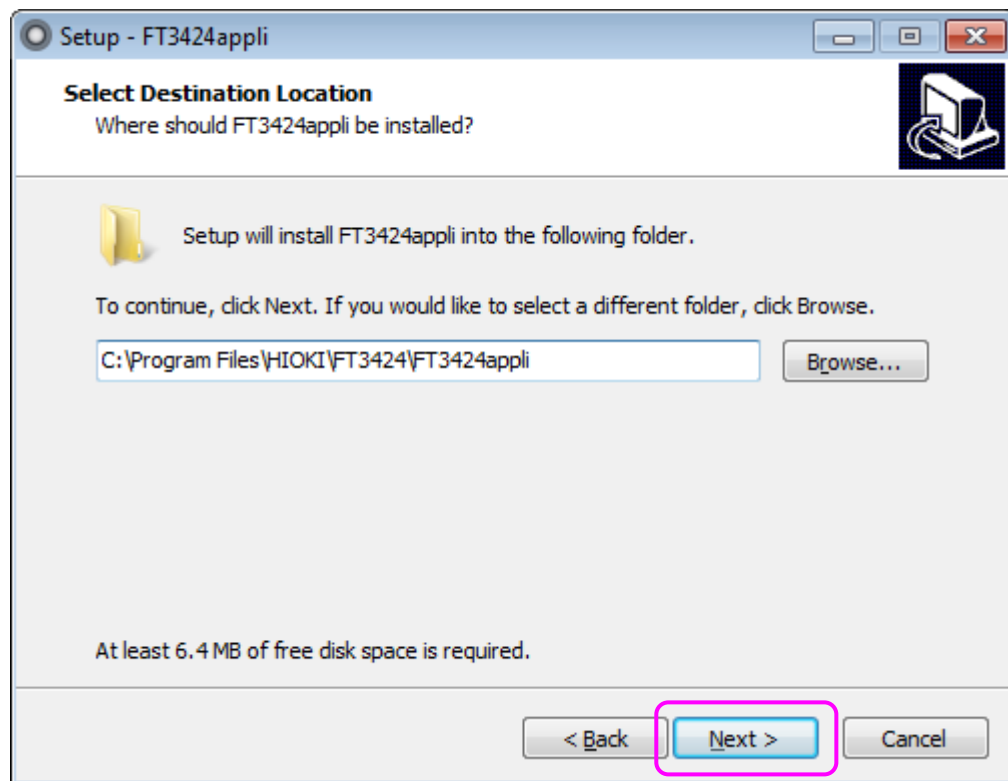

Fig.2-6
Step3: Click [Next]. (Fig.2-6)